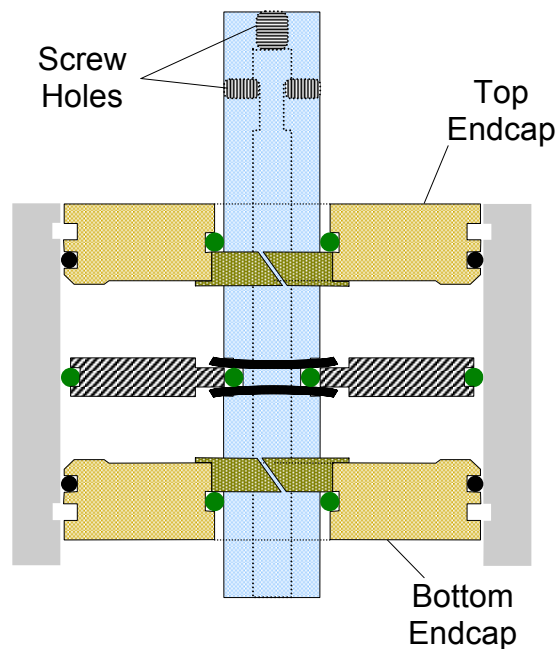

Figure 5
14. Mount the air cylinder in a soft jawed vise with the top pointing up. The Outside surface with the retaining ring groove closest to it is considered the top side. See Figure 5.